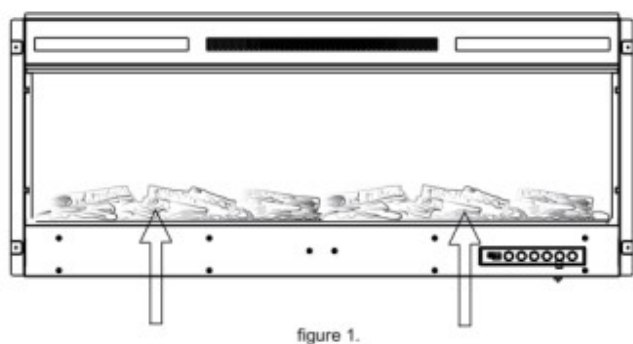

figure 1.
- If your fireplace comes with logset, remove the logset from the package, put it to the fireplace designed place. Figure 1.